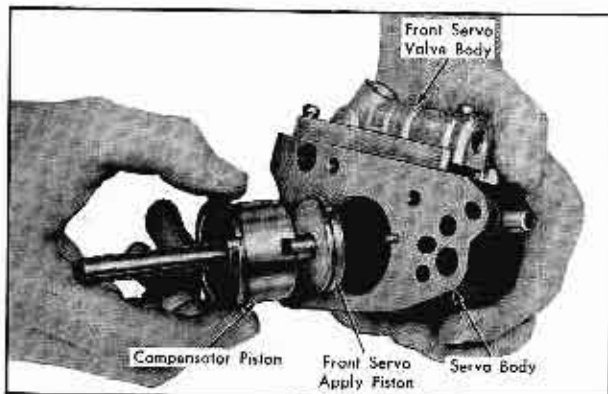

Fig. 14-56 Removing Front Servo Apply Piston
7. Remove front servo apply piston assembly from servo body, Fig. 14-56.